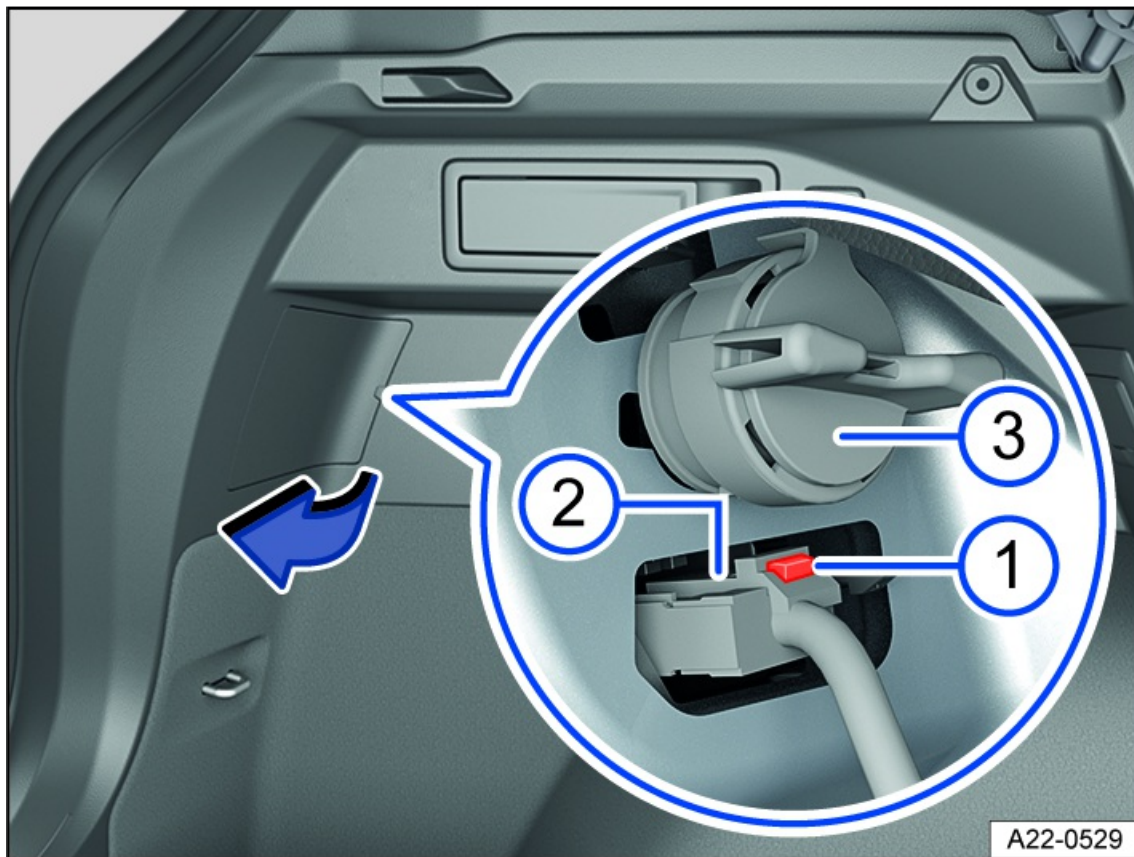

Fig. 190 Side of the luggage compartment: removing the taillight.
2. Remove the red securing clip on the connector *fig. 190* ① and remove the connector *fig. 190* ②. If necessary, use a suitable tool to help loosen the red locking mechanism.
3. Remove the screw counterclockwise *fig. 190* ③.
1. Fit the connector *fig. 190* ② and press the red locking mechanism into the connector *fig. 190* ①.
3. Hold the taillight in the installation position with one hand and tighten the screw with the other hand *fig. 190* ③.